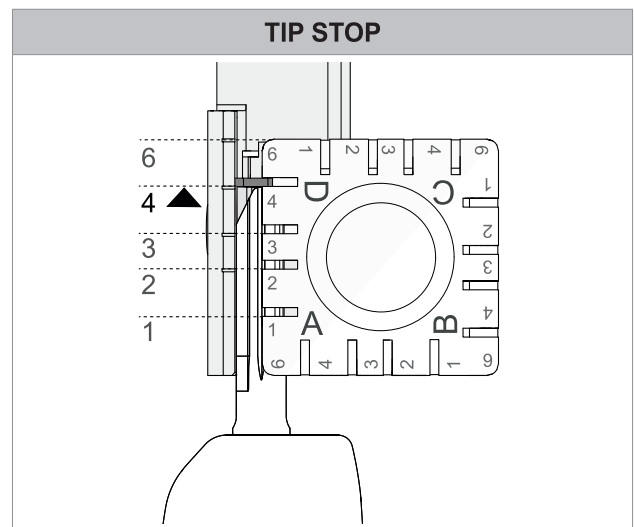
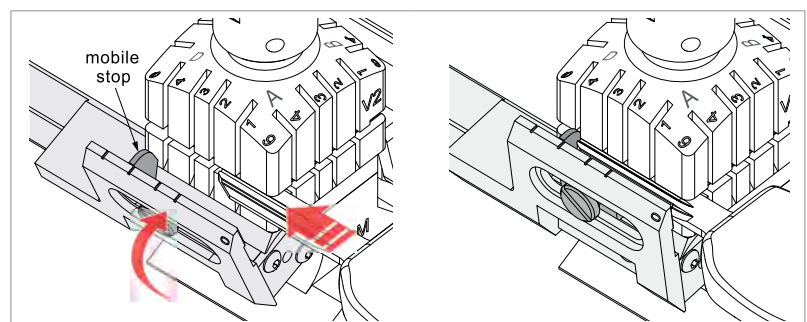

Fig. 71
Fig. 72 - mobile stop
- To fit keys with tip stops into the clamp, use the mobile stop on the gauge (Fig. 72) to be fitted into the special grooves (Fig. 71).